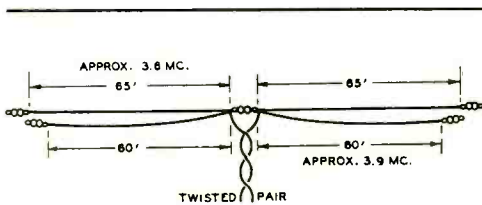

Figure 1.
The glow-discharge relay tube, type OA4-G, is designed particularly for remote-control relay service. Because the control circuits to be described are built around this tube, an understanding of its operation is essential. The OA4-G is a gas "triode" having a cold cathode (K), a starter anode (P1), and an anode (P2). Figure 1 shows the socket connection.
The solution for the 3.5-4 Mc. band is simple, and is shown in figure 1.2 Two radiating sections fed in parallel flatten out the response of the antenna, equalizing the loading